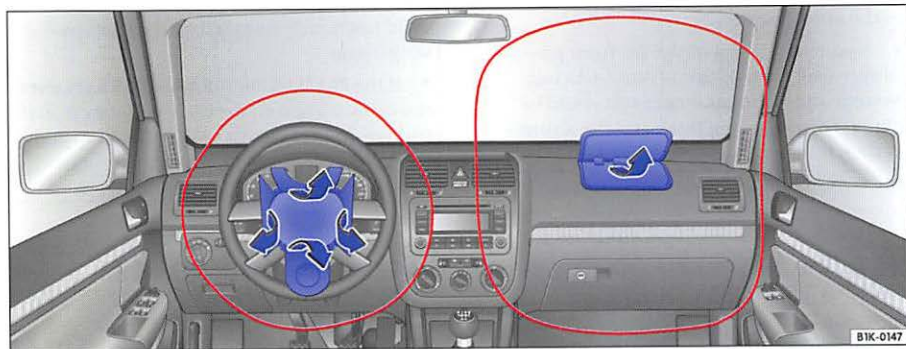

Fig. 23 Front airbag deployment zone
The areas outlined in red ⇒fig. 23 indicate the airbag deployment zone. Never place or attach accessories or other objects (such as cup holders, telephone brackets, large, heavy or bulky objects) on the doors, over or near the area marked in red ⇒⚠.
- Never place or attach accessories or other objects (such as cup holders, telephone brackets, large, heavy or bulky objects) on the doors, over or near the area marked "AIRBAG" on the steering wheel, instrument panel, seat backrests or between those areas —page 36, fig. 23 and yourself. These objects could cause injury in a crash, especially when the airbags inflate.